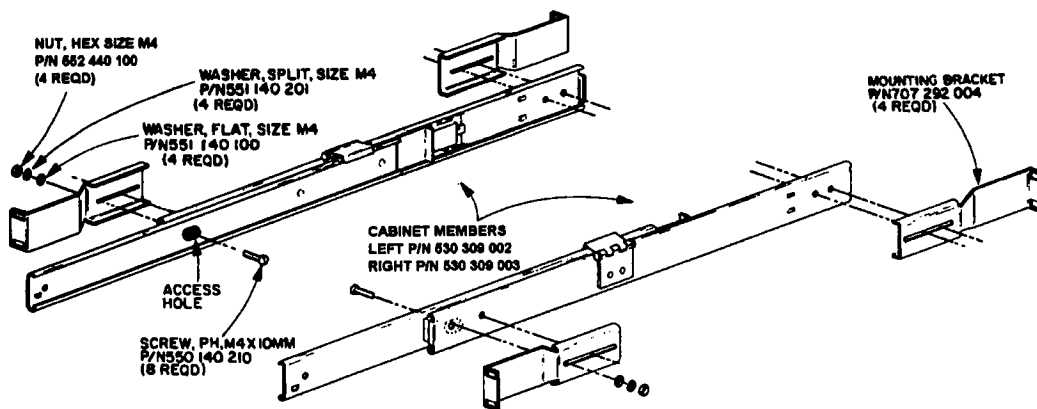

Figure 1: Cabinet Member Assembly
1. Install mounting brackets to cabinet members on slides as shown in Figure 1. After inserting the screws through the front mounting brackets, slide the brackets back as far as possible before tightening. Leave the rear brackets a bit loose for later adjustment.